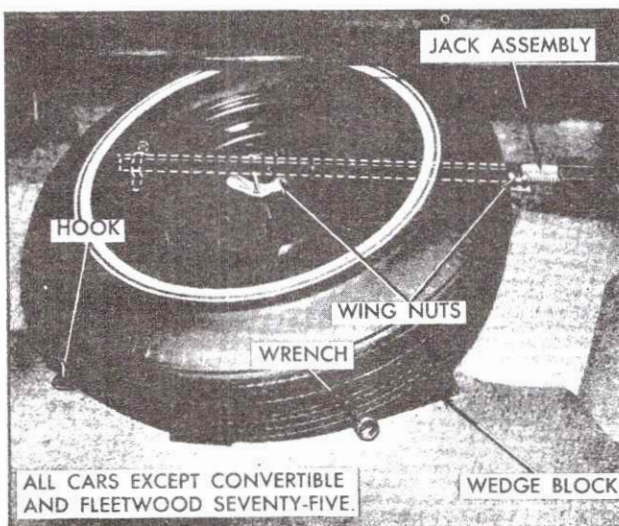

Fig. 10-1 Spare Tire and Jack Components (Except 693)
3. Remove jack components and spare tire from luggage compartment (Fig. 10-1 standard